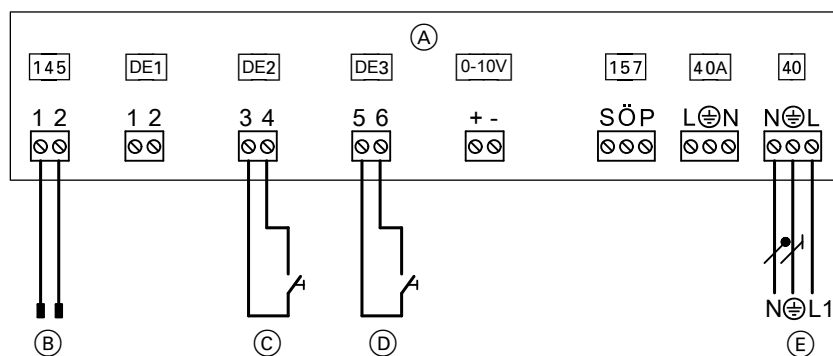

Fig. 55
- Both floating contacts are connected to the EA1 extension in accordance with Fig. 55.